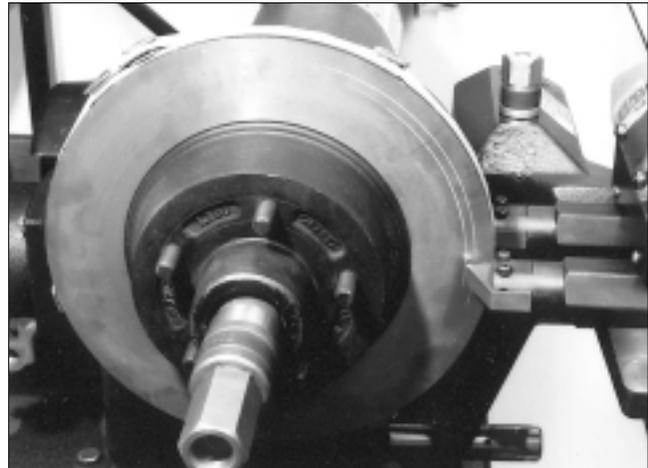

Figure 4
10. Turn the lathe off. If the two scratch cuts are side by side, Fig. 4, the runout is in the rotor and NOT in the mounting, continue with step 11. If the two scratch cuts are 180° apart, the runout is caused by an improper mounting. In this case, inspect the mounting for cleanliness and the adapters for burrs, nicks, and scratches as well as the bearing races for looseness. Remount the rotor and check for runout again. If the runout has been corrected, proceed with step 11.